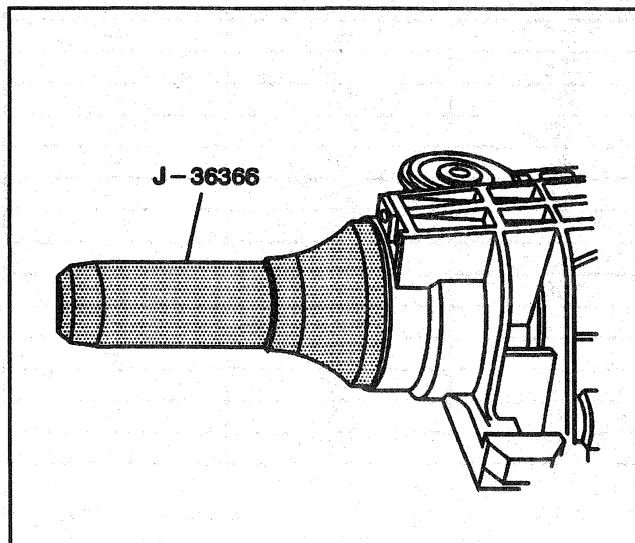

Figure 18—Installing the Pinion Seal
2. Oil seal using J 36366 (Figure 18).